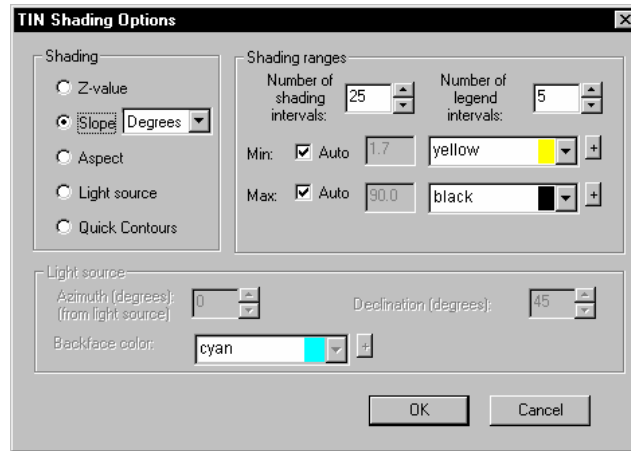

Figure 11.3: Tin Shading Options Dialog
8. Change the Tin Shading options to those in Figure 11.3. Press OK. Notice the slope coloration. The steeper the slope the darker the color. The flatter the area the lighter the color.